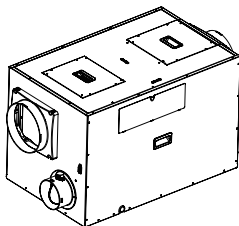

Figure 5
- **Figure 5** shows the default air intake and exhaust methods for the 150 and 200 models.